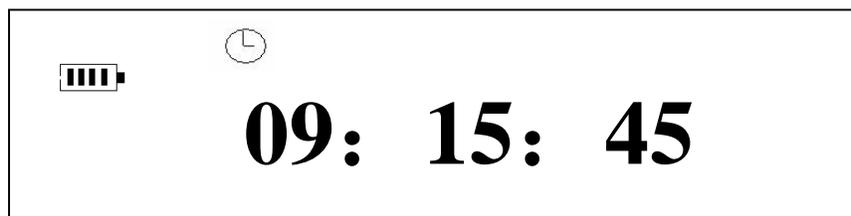
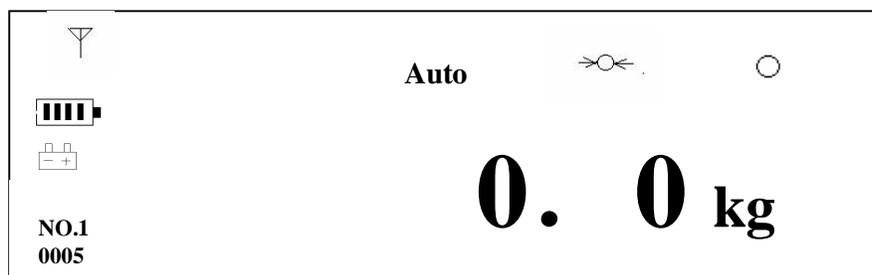

Fig.1
Fig.2
After the completion of self-check sequence, the time mode will be displayed as Fig. 1. If there is weighing signal detected, the display will change into Weigh mode from time mode as shown in Fig. 2. Otherwise the display will remain in Time mode.
As shown in Fig. 1, the battery power level indicator is located in the upper left corner of the LCD display. Four-bar indicates the battery is at full charged full, one-bar means the battery power is low. In that case, the indicator needs to be charged to prevent it from data lost. 09:15:45 is the current time.
In Fig.2, RECEIVE indicates there is weighing signal detected by the indicator and the indicator is in weighing mode; AUTO means that the indicator is in automatic store and print states; STABLE means the measured weight has been at stable condition; ZERO indicates that there is 0 weight; the number under Sequence is the current weighing number (as shown as 005 in Fig. 2). Scale Power Low indicates that the scale battery needs to be changed so to maintain proper signal transmission.
- ii. 30 seconds after the scale is powered on, turn on the indicator power. Press **ON** key on the indicator. The display will show the software version first (such as “UEr2.3b” as shown in figure below) and then the weight value limit (as shown as “5018” in this case). After that, the display will cycle from “999999” all the way down to “111111”. If there is no weight signal received from the scale, the display will remain in Time mode as shown in Fig. 1. If there is weight signal received, the indicator will change to WEIGH mode (Fig.2).